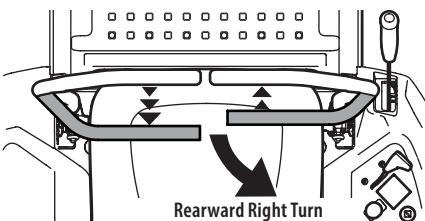

Figure 27
- To turn to the right while traveling in reverse, move the right drive control lever forward of the left drive control lever (Figure 27).